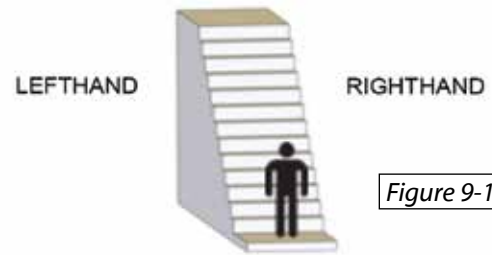

Figure 9-1
1. Determine if the lift will be installed on the right or left side of the staircase. [Figure 9-1]